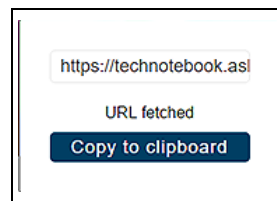

Figure 8-11
3. Select **Copy to Clipboard** (Figure 8-11) from the pop-up window.